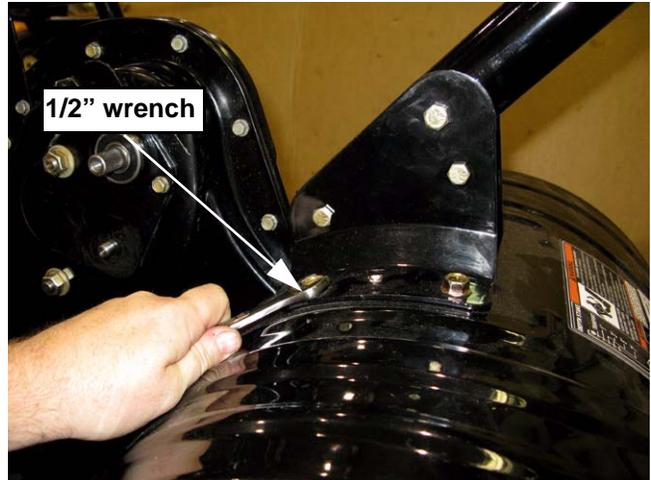

Figure 4.9
17. Remove both hex cap screws and flange lock nuts from each side of the handle bracket by using a 1/2" and 9/16" wrench. See Figure 4.9.